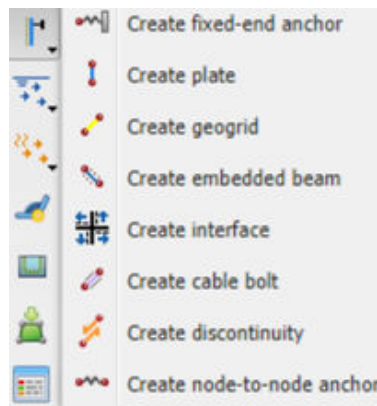

Figure 43: Create plate option
2. In the expanded menu select the **Create plate** as shown in Figure 43 (on page 58).